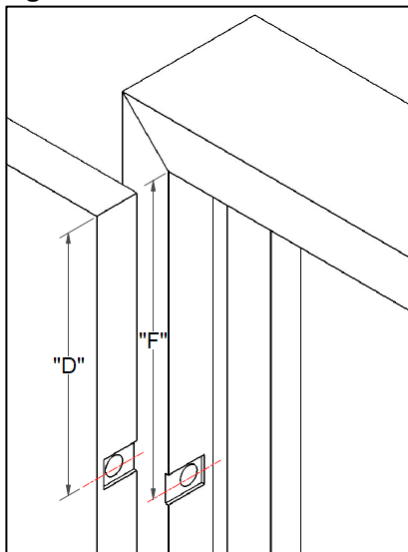
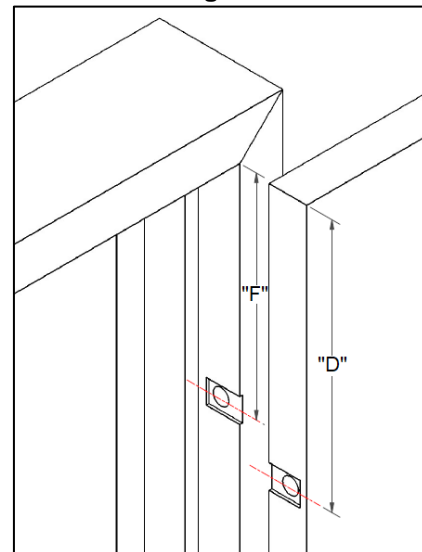

Figure 1
Figure 2
2. Using your Stainless-Steel Continuous Hinge model, hinge length and handing; utilize Figure 1, Figure 2 and the tables below to find the correct security plate recess centerline location for your door and frame. Dimensions below are based on Hager’s standard ETW centerline locations and the industry standard of 1/8” clearance between the top edge of the door opening and the top edge of the door. **Call Hager Technical Support for Modified Length Hinges and Non-Standard ETW centerline location.**